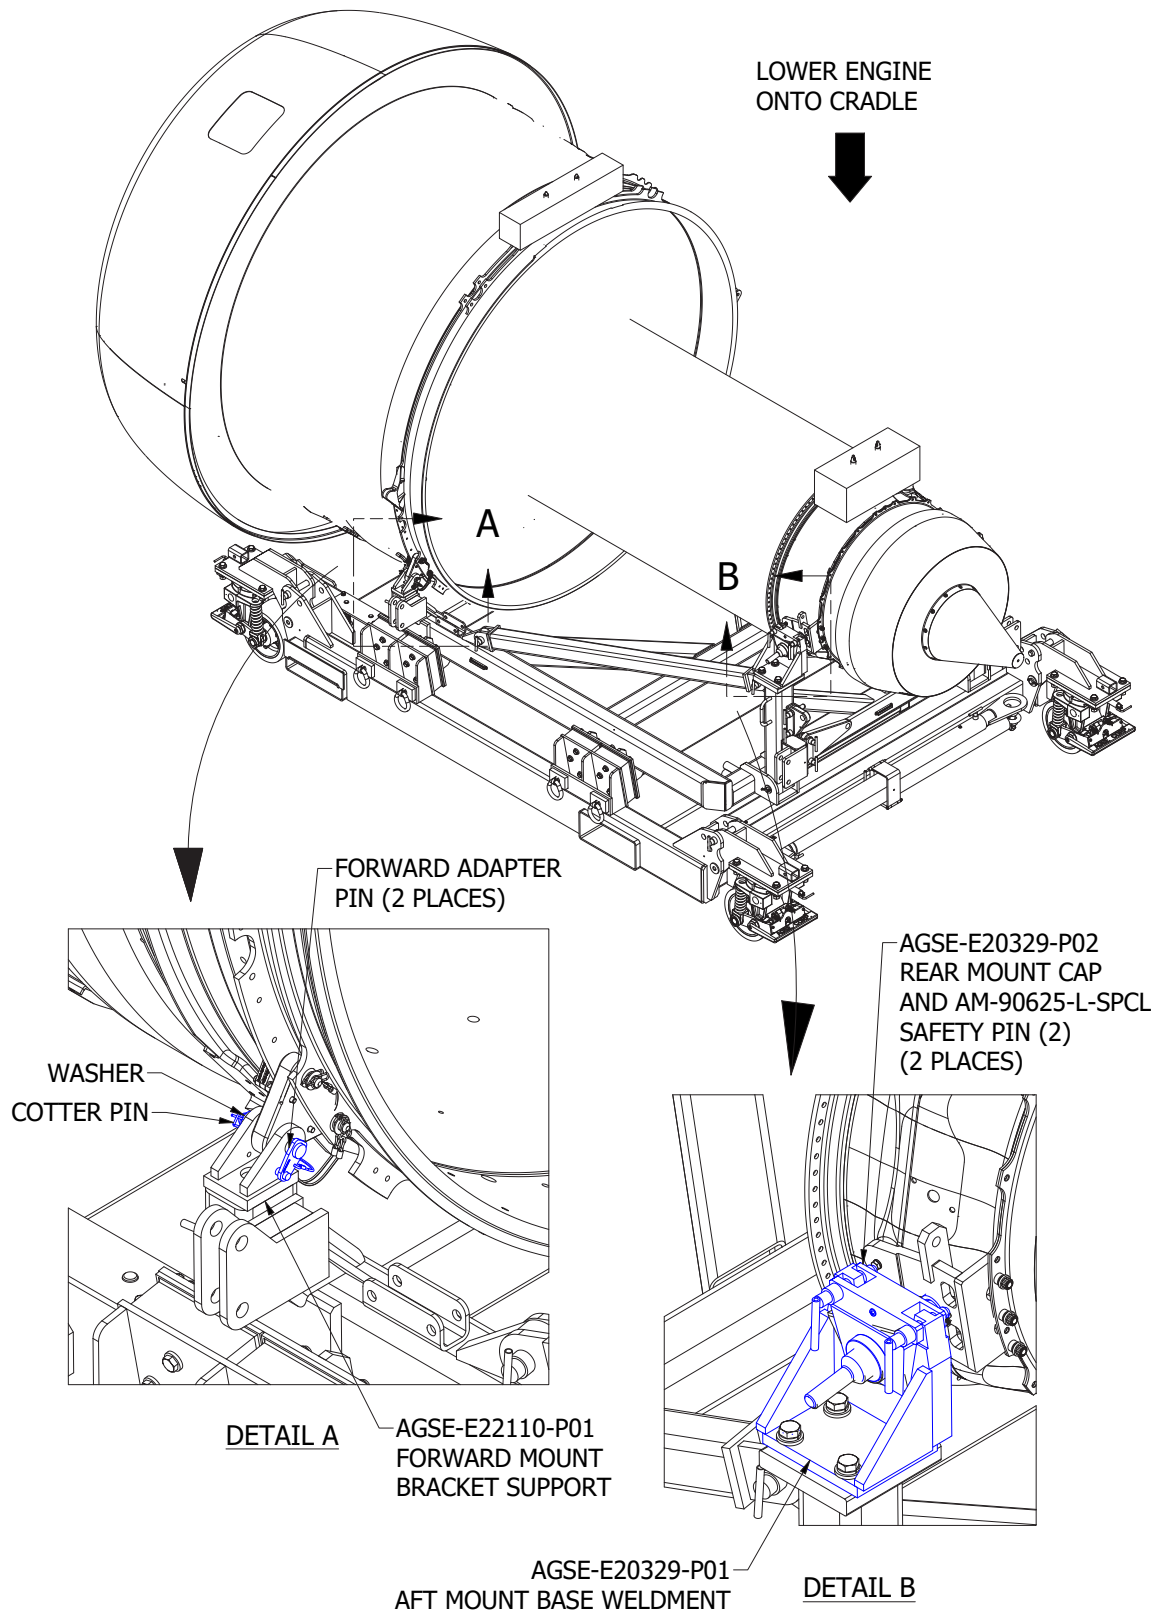

Figure 4.4-4
- b. Insert two (2) forward adapter pins (part of AGSE-E27716-S01 assembly) from AFT to FORWARD while aligning the anti-rotation pins
- c. to the forward mount blades (Detail A of Figure 4.4-4). Insert two (2) washers (part of AGSE-E27716-S01 assembly) (Detail A of Figure 4.4-4).
- d. Use cotter pins (part of AGSE-E27716-S01 assembly) to retain the forward mount pins in place (Detail A of Figure 4.4-4)
- 10). Secure the spindles with the AGSE-E20329-P02 rear mount caps and AM-90625-L-SPCL safety pins (Detail B of Figure 4.4-4).